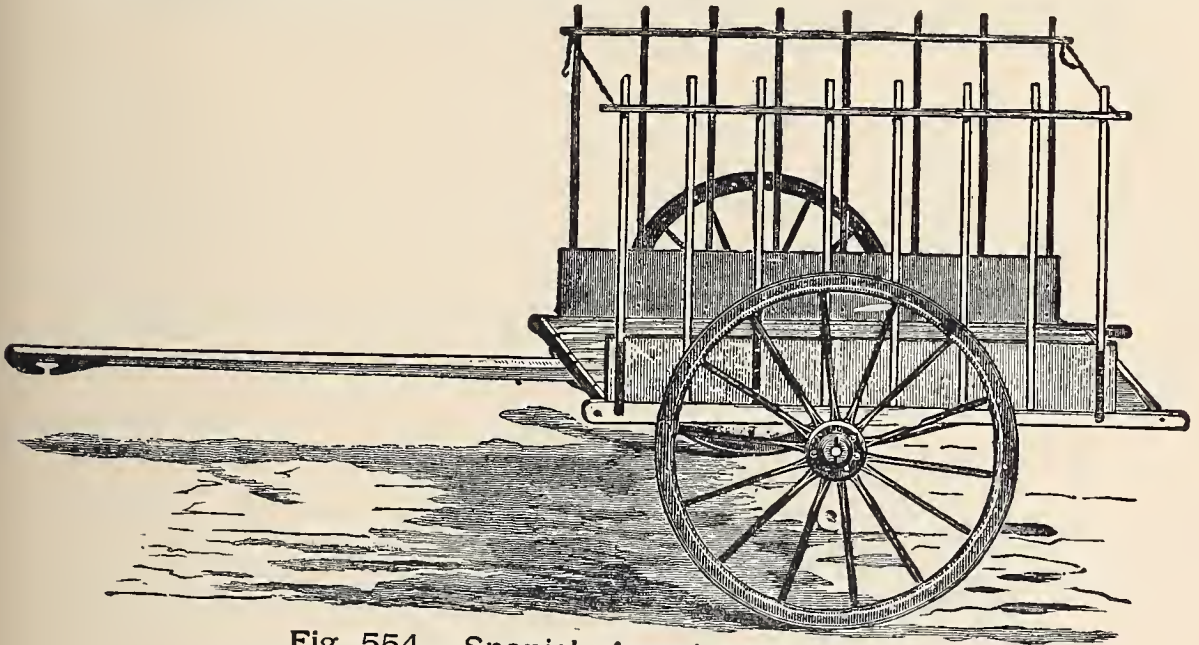

Fig. 554.—Spanish-American Ox-Cart.
**The Spanish-American Ox-Cart.**—This cart, shown at *Fig. 554*, is specially designed for sugar-cane, and was introduced by our Mr. F. G. Crosby, after eighteen years' experience on sugar-estates in the West Indies. This cart is for the purpose of removing the cane from the field to the mill for grinding. It is light, large, and roomy, yet very strong, to suit it for the rough roads and fields.